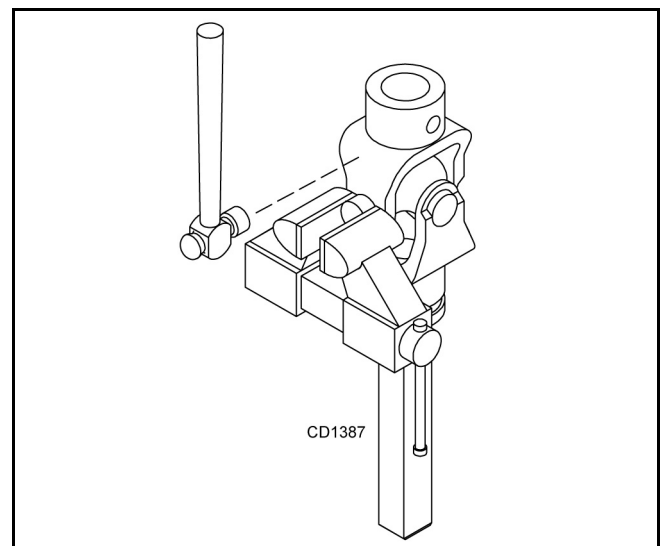

Figure 19
3. Clamp cup in vise as shown in Figure 19 and tap on yoke to completely remove cup from yoke. Repeat step 2 and step 3 for opposite cup.